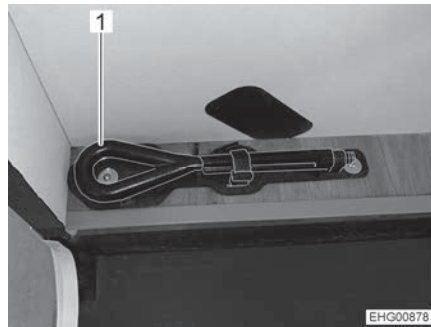

Fig. 1 Towing eye
- ▷ The instruction manual for the Ford base vehicle describes that the towing eye is located underneath the front passenger's seat. In the motorhome, however, the towing eye (Fig. 1,1) is housed in a bracket on the floor landing in the rear garage or in the gas bottle compartment.